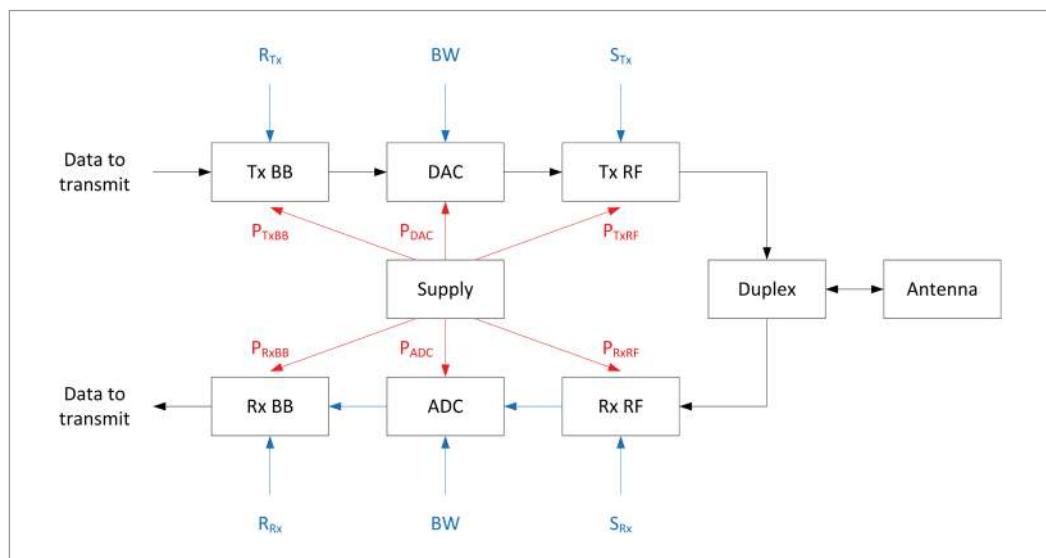
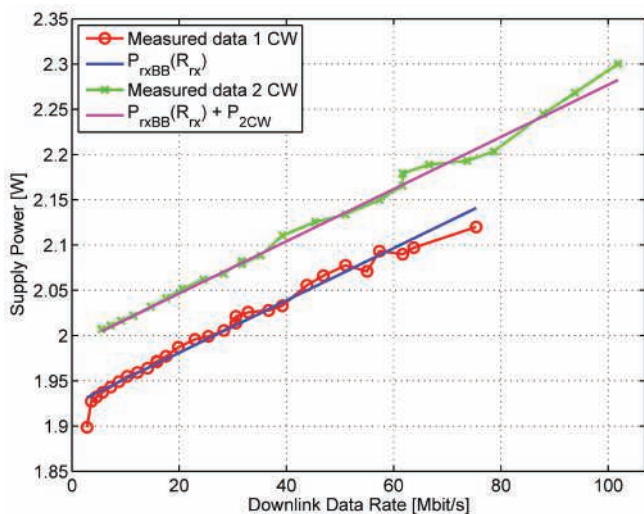

Figure 1. UE power consumption model, based on Figure 1 in [2]
Figure 10. Supply power consumption as a function of downlink data rate. Figure 3 in [7]
The key parameters are uplink (UL) and downlink (DL) data rates ( $R$ ), transmit (Tx) and receive (Rx) power levels ( $S$ ), cell bandwidth ( $BW$ ), and discontinuous reception (DRX). The parameters affect the smartphone's modem, and more specifically, the Rx and Tx base band (BB) and Rx and Tx radio frequency (RF) components. A power consumption model that includes these components has been proposed in an article entitled *Empirical LTE Smartphone Power Model with DRX Operation for System Level Simulations* [2]. It covers the contribution from each parameter on the related component, as illustrated in Figure 1.
When you have collected the relevant parameters from the PXT and N6705B, you can post-process them to generate the model illustrated in Figure 1. Each test case provides input for one UE component, and an example of such a combination is given in Figure 10, where the downlink data rate, which was controlled and measured using the PXT, has been combined with the supply power consumption measured by the N6705B.
Next, calculate a polynomial fit to the data, as shown in the  $P_{rxBB}(R_x)$  line in Figure 10. Then insert the polynomial function in the appropriate part of the power consumption model.
Two articles discuss using the PXT and N6705B setup. In *LTE UE Power Consumption Model - For System Level Energy and Performance Optimization* [7], the authors discuss the basis for the model in Figure 1 and report power consumption for commercial LTE dongles. The article mentioned earlier [2] is an updated version of this paper [7], and it includes measurements on first-generation LTE smartphones and examines screen and DRX power consumption. Refer to the papers for further details on measurement setup and results.
Test case 1 includes 29 points, but when you examine Figure 10 it is clear that the power consumption is almost a linear function of downlink data rate. Therefore, three test points should be sufficient. The same goes for test case 2, which could be omitted completely.